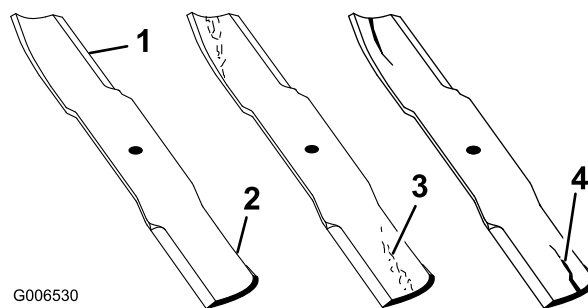

Figure 46
1. Inspect the cutting edges (Figure 46). If the edges are not sharp or have nicks, remove and sharpen the blades; refer to Sharpening the Blades.
2. Inspect the blades, especially the curved area (Figure 46). If you notice any damage, wear, or a slot forming in this area (items 3 and 4 in Figure 46), immediately install a new blade.